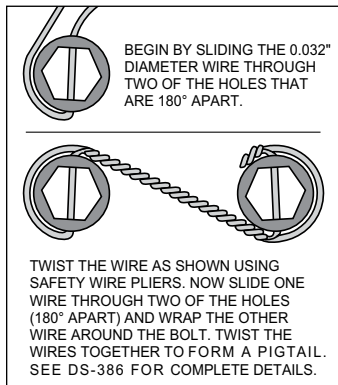

Figure 3.
STEP 2 Orient the rotor (5) and the hat (6) as shown in Figure 1 and Photo 3. Attach rotor to hat using bolts (7) and washers (8). Using an alternating sequence, torque to value shown in Figure 1. For an added measure of security, the bolts may be safety wired using standard .032" diameter stainless steel safety wire as shown in Figure 3. Please refer to Wilwood's data sheet DS-386 (available at www.wilwood.com/Pdf/DataSheets/ds386.pdf) for complete safety wire installation instructions.